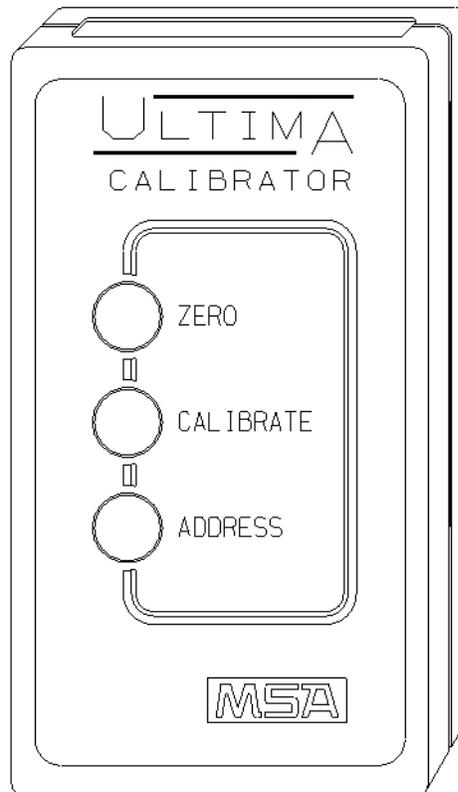

Fig. 17 Ultima Calibrator
- Calibrator P/N 809997 (Fig. 17 "Ultima Calibrator")